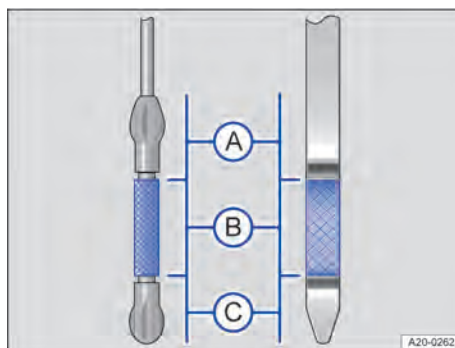

Fig. 197 Oil dipsticks with engine oil level markings (variants).
7. Pull out the oil dipstick again and read the engine oil level on the dipstick as follows → Fig. 197:
13. After filling, the engine oil level should be in the middle of the area → Fig. 197 Ⓑ. The engine oil level must not be in area → Fig. 197 Ⓐ → .
14. If too much engine oil has been added unintentionally and the engine oil level is in area → Fig. 197 Ⓐ, do not start the engine. Seek expert assistance.
- If the engine oil level is in area → Fig. 197 , do not start the engine. Seek expert assistance.